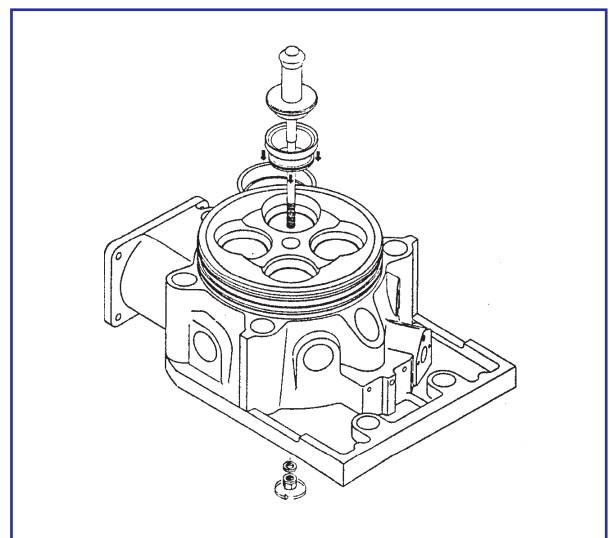

Fig 5
- 5) The valve seat ring is positioned in the bore, handle with stud inserted as shown in fig 5, and washer with screw is screwed tight.